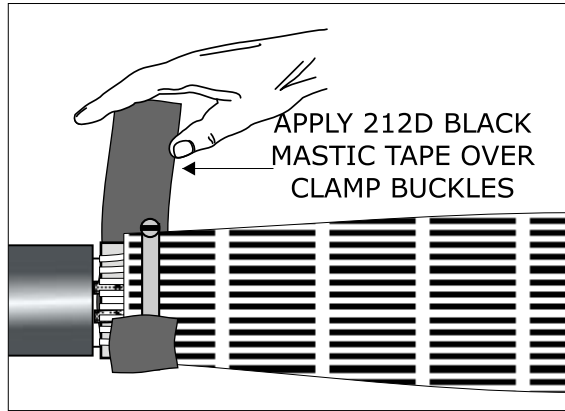

FIG 14
17. Apply 212D Black Mastic Tape over the Clamp Buckles as shown in Fig 14.